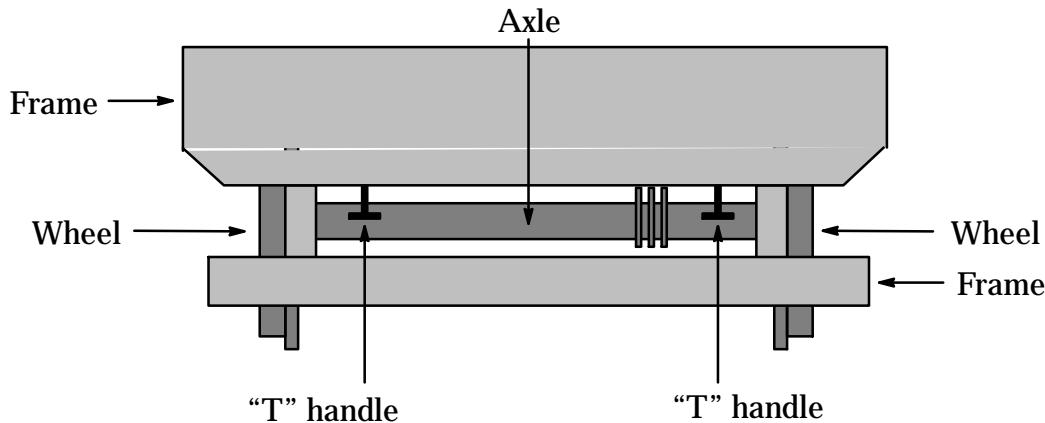

Figure 3–1: “T” handles
- c. Locate the “T” handles at the front and rear of the machine (next to the wheels). Refer to Figure 3–1.